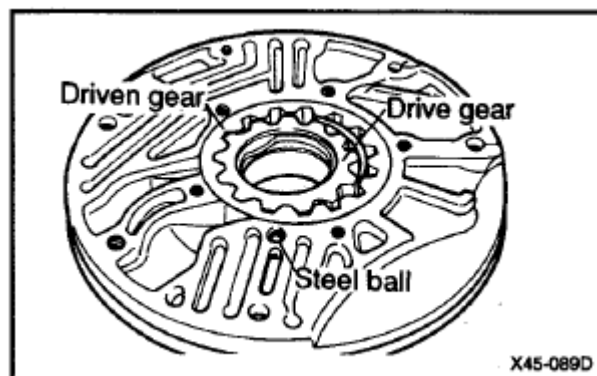

Fig. 134: Identifying Oil Pump Drive, Driven Gear, & Steel Ball
5. Install the steel ball in the hole as shown in **Fig. 134**.